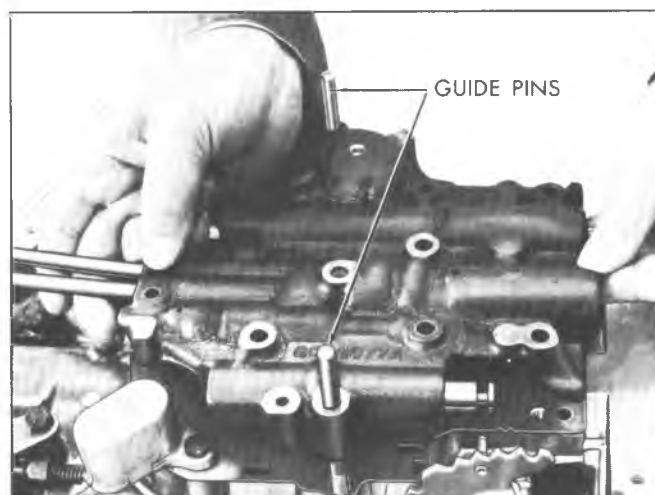

Fig. 151T-Installing Control Valve Assembly and Governor Pipes
1. Install two control valve assembly attaching bolts with heads cut off as guide pins as shown in figure 151T.
3. Install control valve assembly and governor pipes on transmission, while carefully aligning the governor feed pipe over the governor screen (fig. 151T). Make certain gasket and spacer do not become mispositioned.